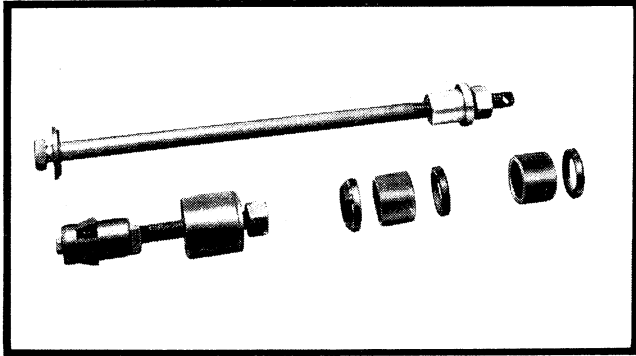

Figure 136
- 3) Using the special center post bearing puller tool, pull out the lower bearing and seal from the top of the center post, see *Figure 136*.